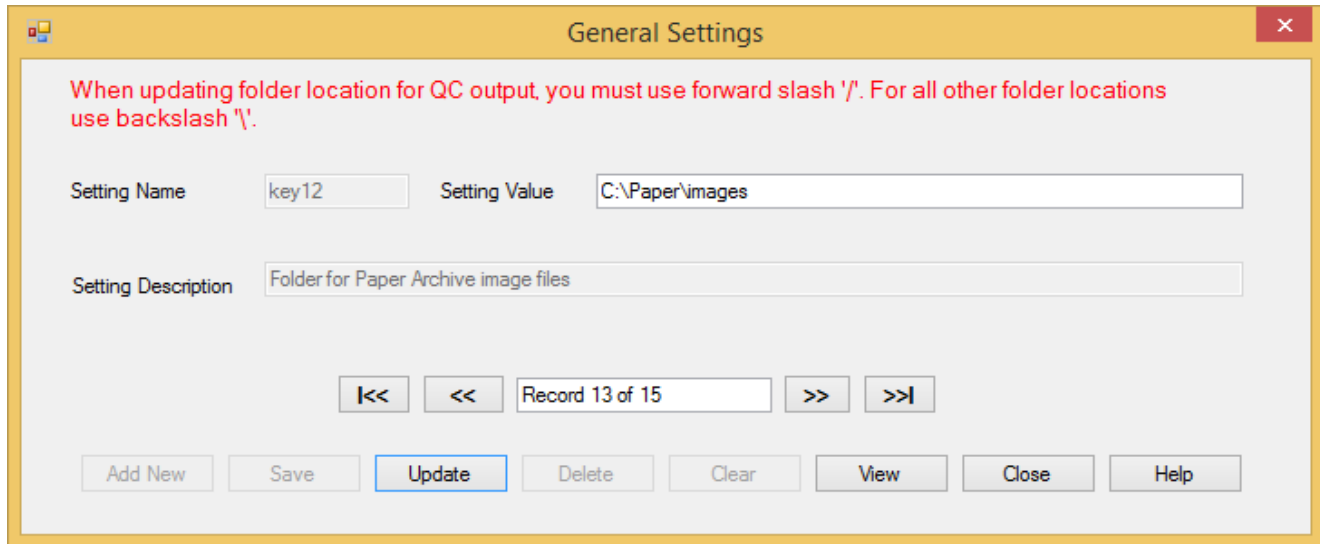

Figure 97: General Setting Dialog
- From the **Main Menu** click **Tools -> General Settings** and browse the records until the “**Setting Description**” box displays the value; “**Folder for Paper Archive image files**”. See **Figure 97**,